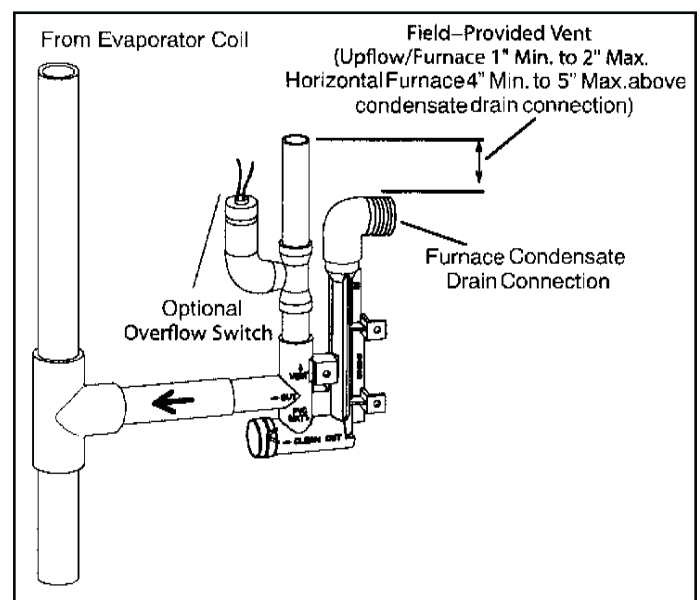

Figure 38. Condensate Trap with Optional Overflow Switch
3. Install the cap over the clean out opening at the base of the trap. Secure with clamp. See Figure 38.
4. Install drain trap using appropriate PVC fittings, glue all joints. Glue the provided drain trap as shown in Figure 38. Route the condensate line to an open drain.